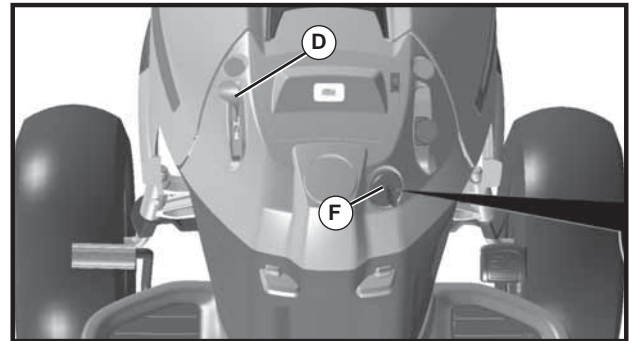

Fig. 6
### ENGINE - (See Fig. 6)
### TO USE THROTTLE CONTROL (D) (See Fig. 6)